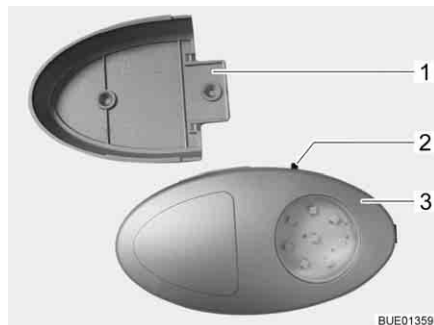

Fig. 67 Wardrobe light
- ▷ The wardrobe light can be removed from its holder (Fig. 67,1) and used as a torch.
The On/Off switch (Fig. 67,2) is located directly on the wardrobe light (Fig. 67,3).